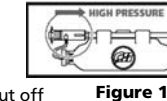

Figure 10
3. Pull back on black nozzle to ensure lance is in high pressure mode (Figure 10).